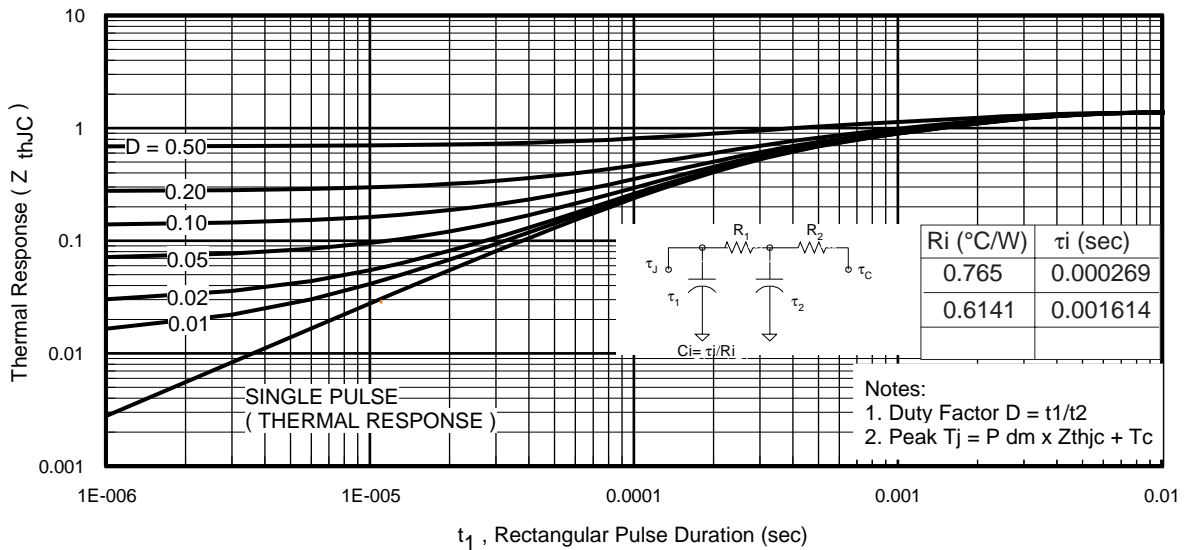
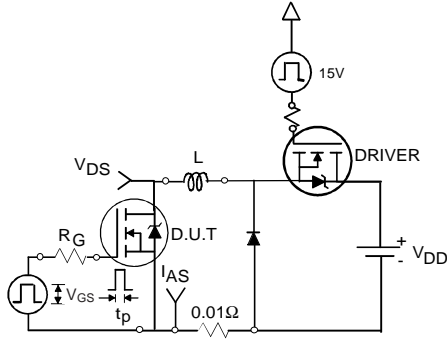

Fig 11. Maximum Effective Transient Thermal Impedance, Junction-to-Case
Fig 12a. Unclamped Inductive Test Circuit
3. Equation below based on circuit and waveforms shown in Figures 12a, 12b.
$Z_{thJC}(D, t_{av})$ = Transient thermal resistance, see figure 11)
- ① Repetitive rating; pulse width limited by max. junction temperature. (See fig. 11).
- ② Limited by T_{Jmax} , starting $T_J = 25^\circ\text{C}$, $L = 0.089\text{mH}$, $R_G = 25\Omega$, $I_{AS} = 36\text{A}$, $V_{GS} = 10\text{V}$. Part not recommended for use above this value.
- ③ Pulse width $\leq 1.0\text{ms}$; duty cycle $\leq 2\%$.
- ④ C_{OSS} eff. is a fixed capacitance that gives the same charging time as C_{OSS} while V_{DS} is rising from 0 to 80% V_{DSS} .
- ⑤ Limited by T_{Jmax} , see Fig.12a, 12b, 15, 16 for typical repetitive avalanche performance.
- ⑥ This value determined from sample failure population. 100% tested to this value in production.
- ⑦ When mounted on 1" square PCB (FR-4 or G-10 Material) . For recommended footprint and soldering techniques refer to application note #AN-994
- ⑧ R_θ is measured at T_J approximately 90°C